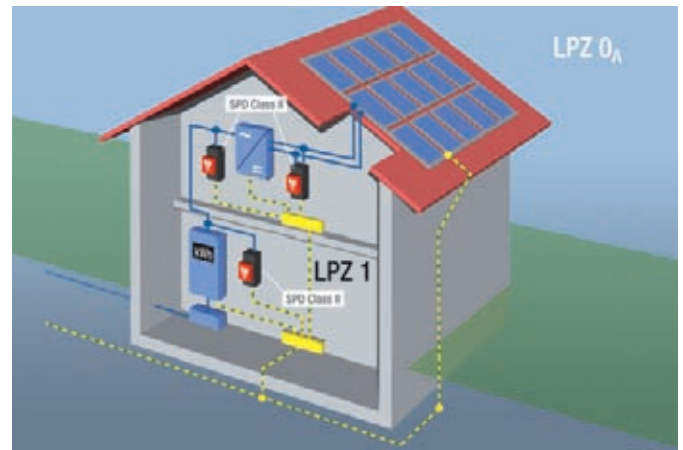

Figure 1: Schematic diagram from standard IEC 60364-7-712:2002
The photovoltaic (PV) is an elementary pillar of power generation in the field of renewable or rather regenerative energy. That does not just apply to Germany; Southern Europe and North America are equally important export markets. For the installation of photovoltaic systems the standard IEC 60364-7-712:2002 [1] has been applicable since June 2006. This is a harmonised European standard, which means it is a HD document. Its transitional period ended on 1st March 2008; as a consequence the standard is in force and must be applied. This standard contains information relating to overvoltage protective devices and lightning protection. It does not explicitly require surge voltage protection; however, it is recommended (Figure 1). Equally, the standard points out that when lightning protection is deployed the PV system must be protected by an isolated air-termination system – and the separation distance must be maintained.